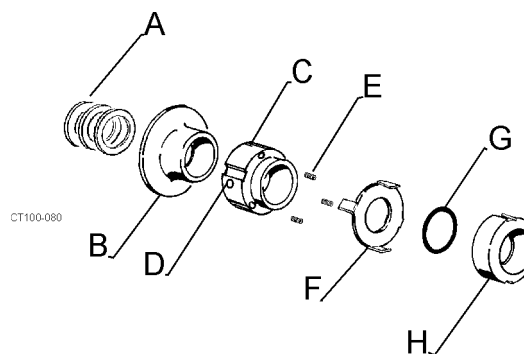

Figure 32 - Type 1 Seal Assembly
4. Slide the tabbed washer (Figure 30, item F) over the impeller shaft and engage the tabs of the washer into notches on the outside of rotary seal. (Figure 32, items F and H).
5. Install the three seal springs into holes in the spring retainer. (Figure 32, items C and E). Hold the springs in place with RTV silicone sealant.
6. Slide the spring retainer over the impeller shaft until the slots in the spring retainer engage the drive tabs on washer and springs rest against the washer. (Figure 32).
8. Lock the spring retainer in place by tightening the set screws. (Figure 32, item D).
9. Install the deflector on to the impeller shaft. (Figure 32, item B).